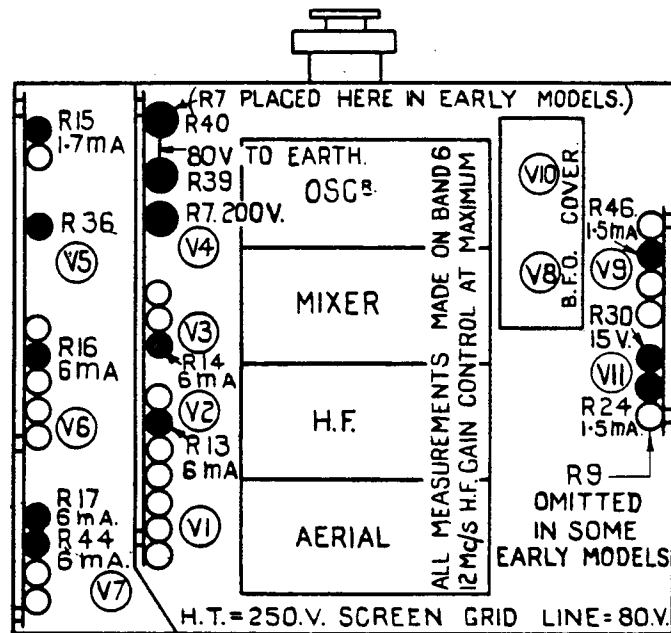

Fig. 9. Plan of Underside showing Test Points.
Fig. 9, above, shows the position of the various anode and cathode resistances and the values of current or voltage obtained with maximum H.F. gain. For convenience, these and other readings obtained are tabulated opposite (see Table 5). An Avometer or Avominor, or other simple test meter should be used. In the case of the 1st Oscillator (V4), measure the D.C. voltage drop across the Anode resistance, R7 on diagram. As indicated on Fig 9, the position of this resistance has been changed slightly since the earliest models were introduced. It is easily recognised by its size and colour (red, 3 watt type). On the output valve V9 measure the D.C. voltage drop across the cathode resistance, R30 on diagram. On all other valves the approximate anode feed is obtained by connecting the milliammeter in shunt with the anode decoupling resistance. Care should be taken after clipping the positive lead of the meter to H.T. — not to let the negative lead touch the chassis or a point of low D.C. potential, and for this reason the negative lead should have a "probe" connection. It is preferable to use a meter which is fitted with a fuse or automatic cut-out.
**Voltage and Current Check.** (See Fig. 9, page 14.)
Third : If a test meter is available, do not spend too much time on preliminaries, but carry out voltage and current checks (see Fig. 9 and Table 5) and make use of Table 6 (page 17) and the circuit diagram to test circuits for resistance and continuity.